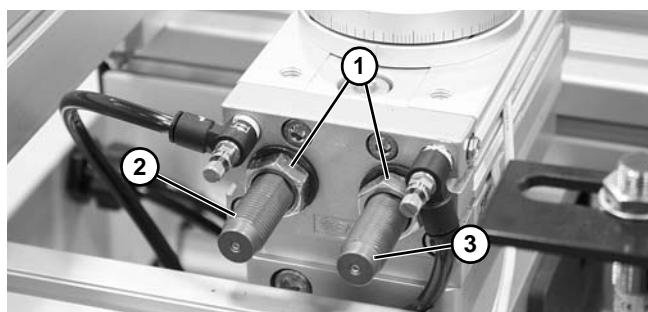

Figure 58
1. Loosen nuts (**Figure 58, item 1**) with an open-end wrench.
2. Adjust counter-clockwise stroke by rotating screw (**Figure 58, item 2**) left or right with an open-end wrench. Adjust clockwise movement by rotating screw (**Figure 58, item 3**) left or right with an open-end wrench. Tighten nuts.